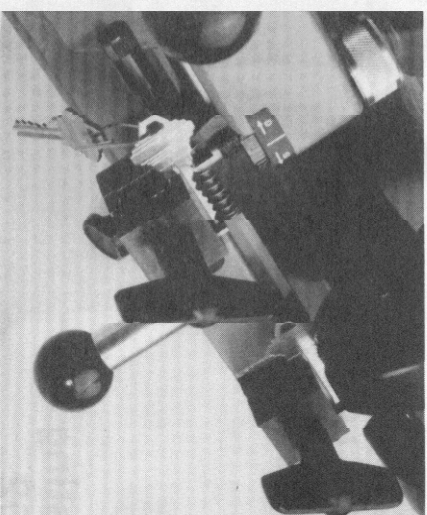

FIGURE 5
2. Loosen jam stop (See Fig. 5).